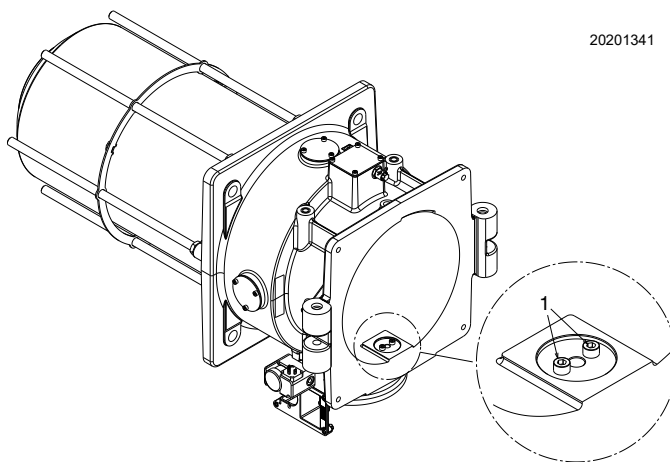

Fig. 21
The factory setting for the central gas is with the following passage holes (Fig. 21).
- remove or add one or more screws 1) (Fig. 21) as follows: